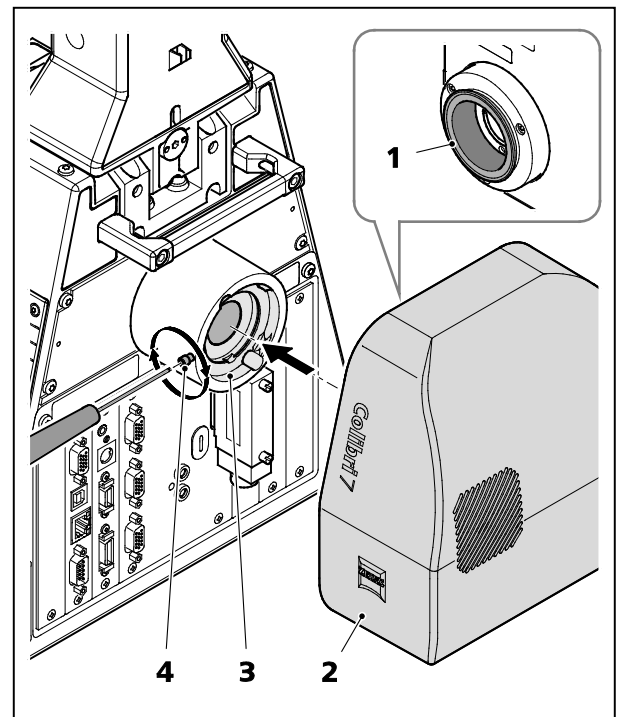

Fig. 9 Attaching the lamp module to the microscope
In case of microscope systems with laser application, the clamping screw (Fig. 9/4) on the reflected light mount for fastening the lamp module to the microscope is a safety screw and may only be removed by ZEISS Service (not a customer interface). Otherwise there is a risk of eye damage upon laser coupling.
- Attach dovetail (Fig. 9/1) of the lamp module (Fig. 9/2) to the reflected light mount (Fig. 9/3).
- Tighten clamping screw (Fig. 9/4).